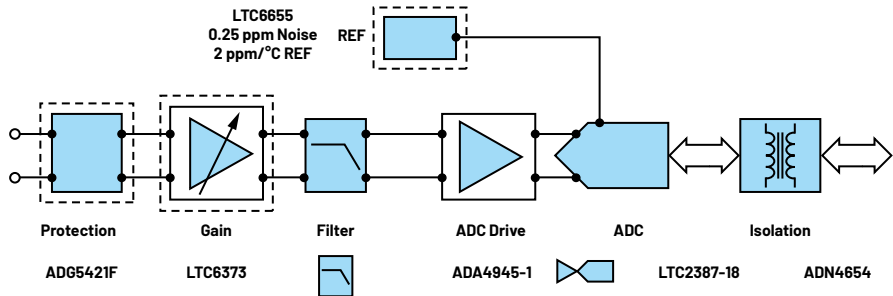

Figure 6. Worked example.
**Table 3. Noise Contribution of the Different Stages from the Example in Figure 6**